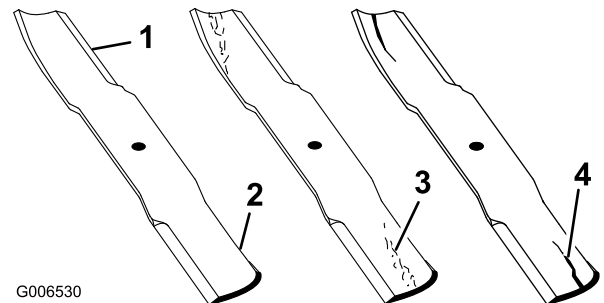

Figure 53
1. Inspect the cutting edges (Figure 53). If the edges are not sharp or have nicks, remove and sharpen the blades. Refer to Sharpening the Blades (page 40).
2. Inspect the blades, especially the curved area (Figure 53). If you notice any damage, wear, or a slot forming in this area (item 3. in Figure 53), immediately install a new blade.